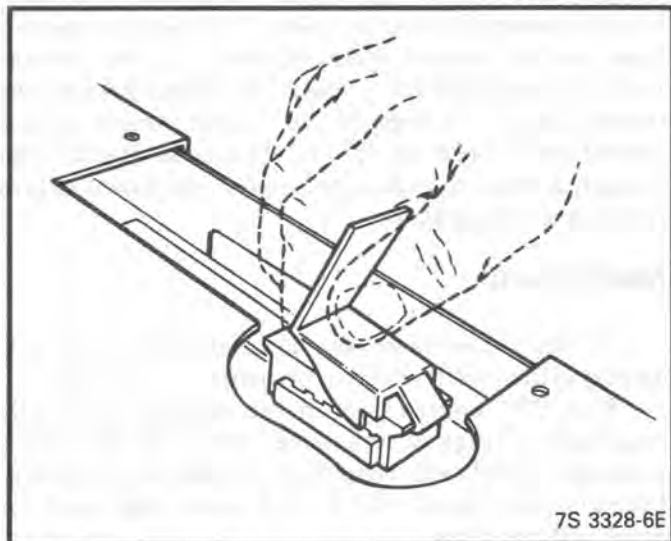

Figure C1-9 - PROM Removal Tool
5. PROM assembly. (Figure C1-9).